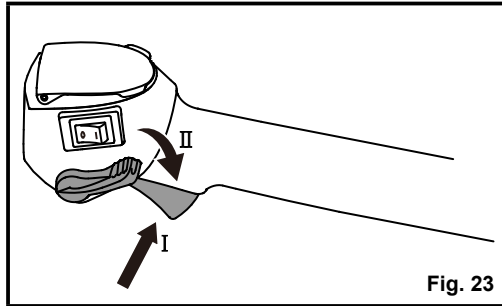

Fig. 23
CRUISE CONTROL LEVER (See Fig. 23)
- To engage, operate the throttle lever toward the suitable speed position for blowing (I), and press down the cruise control lever (II) (Fig. 23).